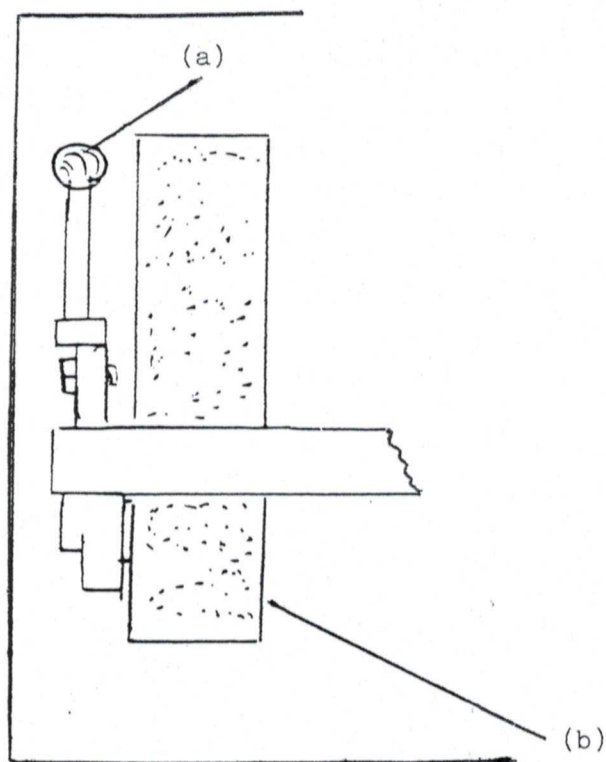

Fig. 12
2. SCOURING SECTION (see fig. 12).